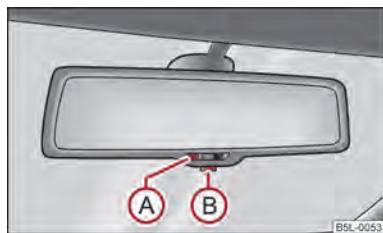

Fig. 40 Automatic dimming interior mirror
- Press the button ② ⇒ fig. 40, the warning light ① lights up.